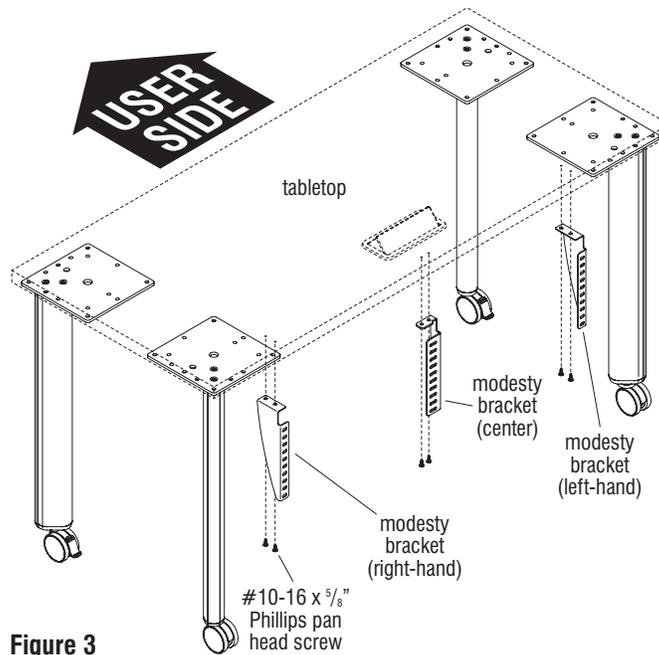

Figure 3
1. One at a time, position one of the handed modesty panel brackets over the appropriate pre-drilled holes at the underside of the tabletop (Figure 3). Align the mounting on top of the bracket with the mounting holes on the underside of the tabletop and secure using two #10-16 x 5/8" Phillips pan head screws (Figure 3).